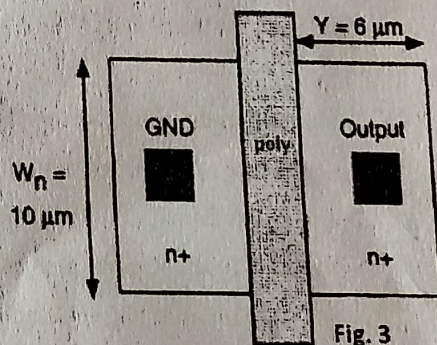

Fig. 3
Q4. (a) Consider the layout of an NMOS transistor shown in Fig. 3.
- A gate oxide (SiO_2) layer (for the NMOS in Fig. 3) is grown using a dry oxidation process at 1250°C . Calculate the number of atoms of Silicon consumed in the process.